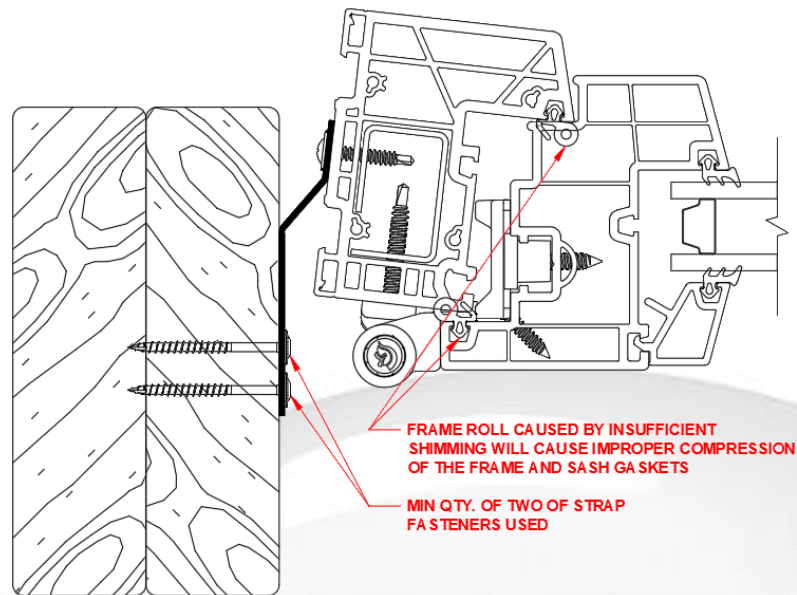

Figure 13: Jamb View Steel Strap Window with Frame Roll
- II. Below is an example of a steel strap window that is shimmed incorrectly and is experiencing frame roll. (See Figure 13)